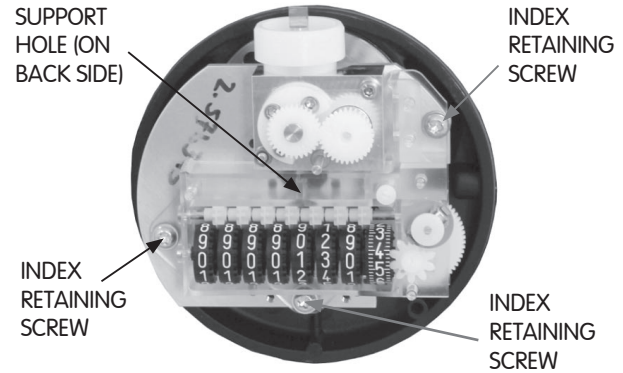

Figure 24. ID retaining screws
- (1) Orient the ID gearing and index assembly so the mounting screws line up with the posts in the index base plate.
- (2) Ensure the shaft on the magnet holder aligns with the support hole on the index frame [Figure 24].